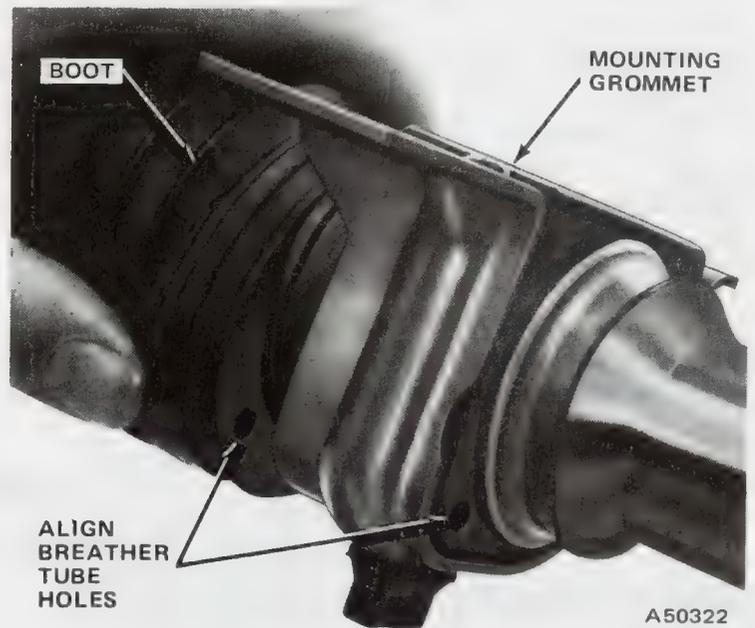

Fig. 2J-36 Protective Boot Installation
(8) Reset distance between end of rack and housing as outlined in step (5). Flat on pinion shaft should now be at 3 o'clock position (fig. 2J-30). Be sure pinion race is bottomed in housing. If flat on pinion shaft is not at 3 o'clock with rack set at 4 inches (10.16 cm), start again at step (4).
(9) Install adjuster plug using Spanner Tool J-7624 and tighten plug until it bottoms.